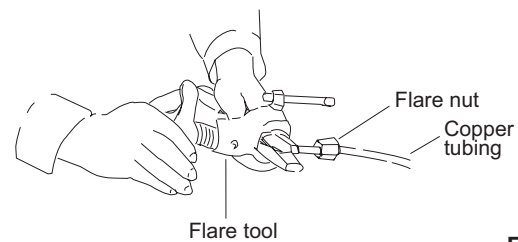

Fig. 2-244
- (3) Remove the flare nut from the unit and be sure to mount it on the copper tube.
- (4) Make a flare at the end of copper tube with a flare tool. (Fig. 2-244)